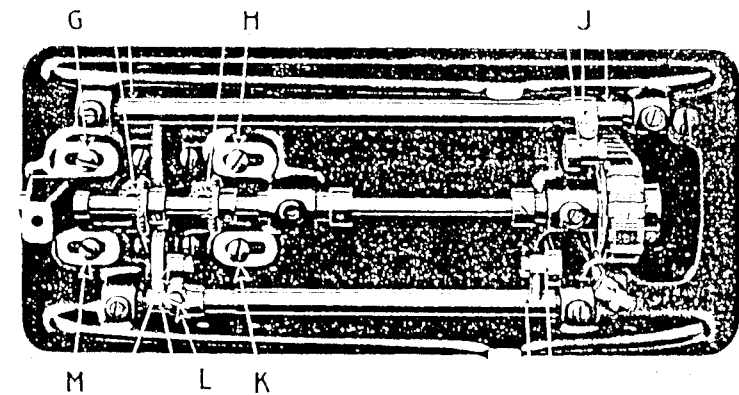

Fig. 5. Base of Machine, Showing Oiling Points and Adjustments
Turn the machine back on its hinges and apply oil at the places designated by arrows as shown in Fig. 5, and all other places where there are parts in movable contact, then bring the machine forward into place.
Tip the machine back and turn the balance wheel toward you until the feed dog is at its highest position. Loosen the pinch screw (L, Fig. 5) in the feed bar slide block crank on the feed lifting rock shaft and move the crank up or down until the feed dog is at the desired height, then retighten the pinch screw (L).
If the feed dog strikes the end of the feed dog slot in the throat plate, loosen the pinch screw (J, Fig. 5) of the feed driving connection crank at the right hand end of the rock shaft, then set the feed dog so that it will not strike when the longest stitch is taken, and retighten the pinch screw (J).
Remove the slide from over the outside sewing hook and also loosen the screw (A, Fig. 3). Tip the machine back on its hinges and remove the two screws (G and M, Fig. 5) which hold the outside hook post in position, then remove the outside hook post. This will give a clear view of the feed dog screw for the purpose of removing and replacing the feed dog.